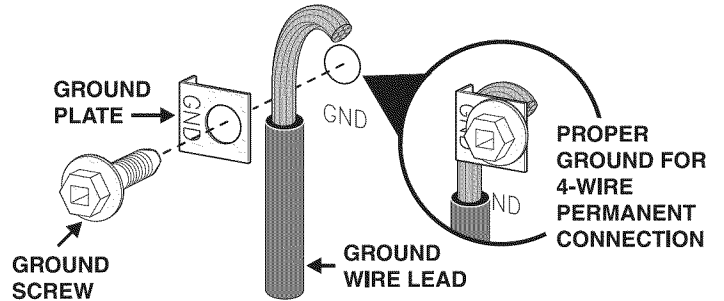

Fig. 32
4. **4-Wire Permanent Connection ONLY** - Connect the ground wire lead (Green) to the frame of the appliance using the ground screw & plate as shown in Fig. 32. Be sure to install using the same hole in the frame where the ground screw was originally installed.
Before connecting gas supply to range, review the suggested power source location drawings (See Figures A, B, and C on page 4). To prevent leaks apply pipe joint sealant on all male (outside) pipe threading. The Pressure Regulator can be found mounted to the lower left rear of range (See Fig 32). To install the gas supply: